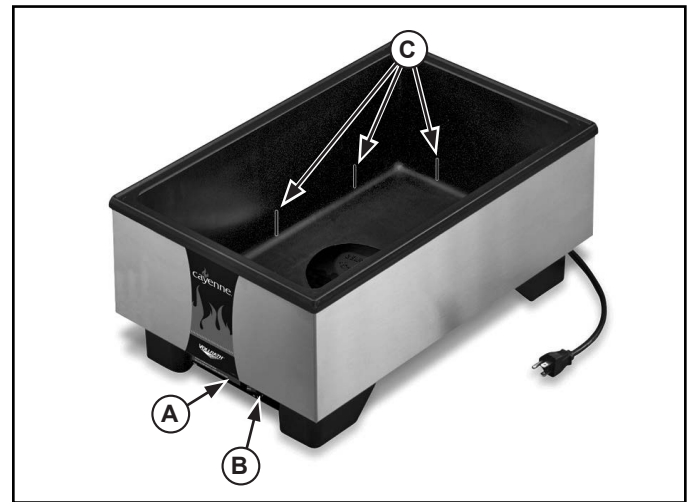

Figure 1. Features and Controls
1. Fill the well to the correct level marks (C) with clean fresh water. The correct level is about 1" (2.5 CM) or approximately 5.5 quarts (5.2 L) of water. Do not over fill. See Figure 1.
3. Preheat the water in the wells by covering wells with empty food containers or covers. Turn the ON/OFF and heat control switch (A) to the maximum heat setting (10). Preheat for 15 minutes.